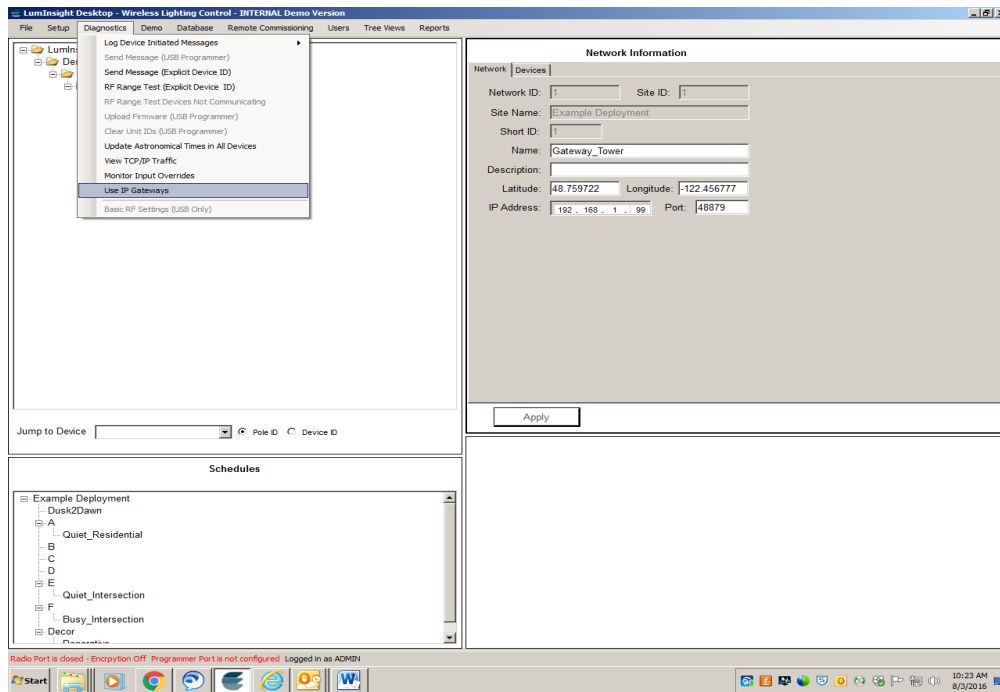

Figure 18. Use IP Gateways Selection
2. Select **Use IP Gateways** from the list, as shown in Figure 18.